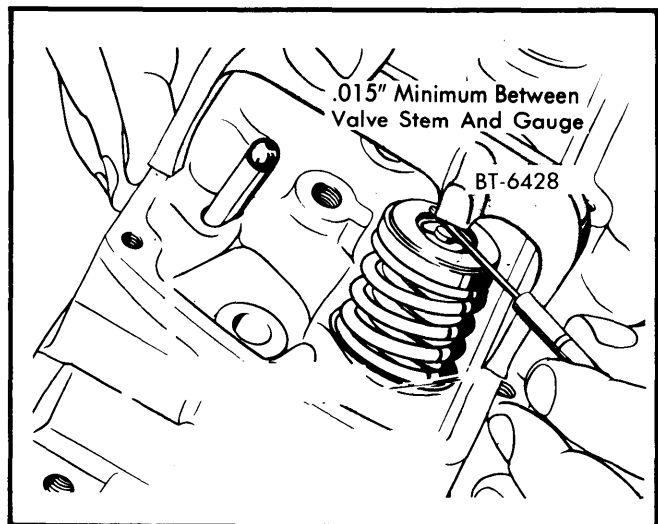

Fig. 4 Measuring Valve Stem Height
2) Measure valve stem height whenever new valve is installed or after grinding valves. Use stem height gauge J-25289-A as shown in Fig. 4. There should be at least .015" clearance between gauge and valve stem. If clearance is less than .015", grind tip as required, make sure end is ground 90° to stem.